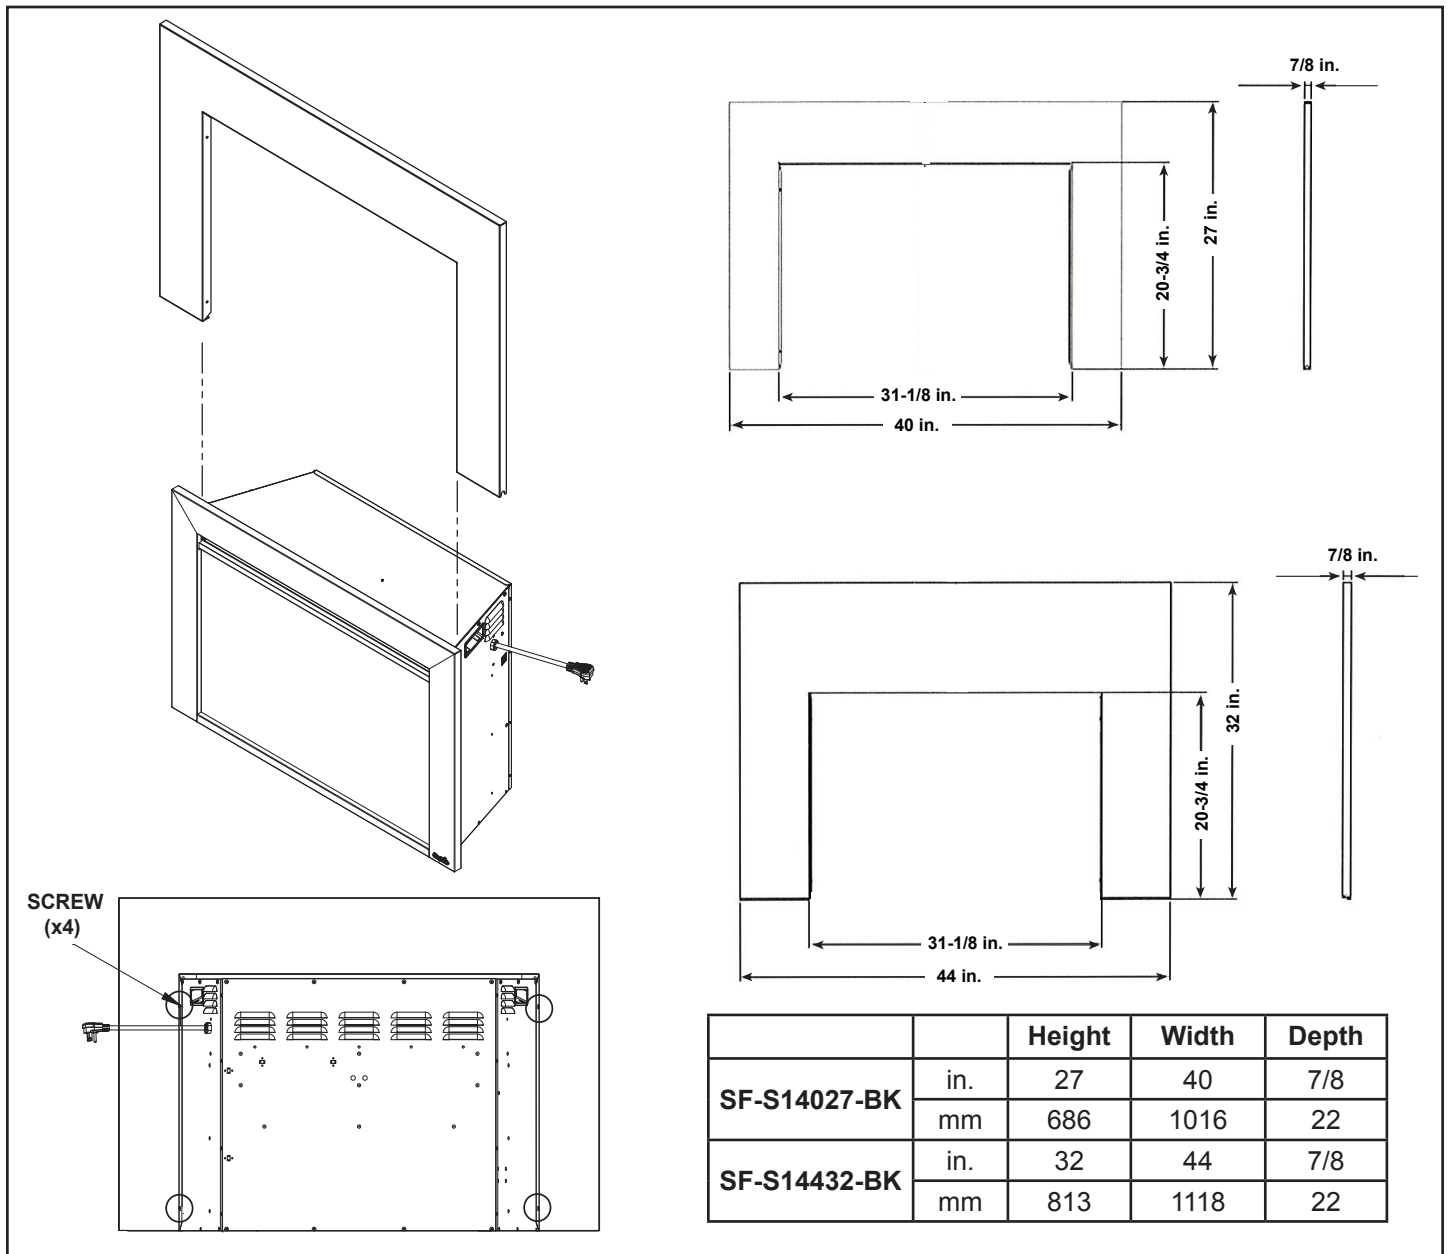

Figure 4.4 Surround Dimensions & Installation
4. Locate the surround on the appliance as shown in Figure 4.4 and attach it to the appliance with four screws removed in step 3.
Verify that the surround is securely attached to the appliance. See Figure 4.4.